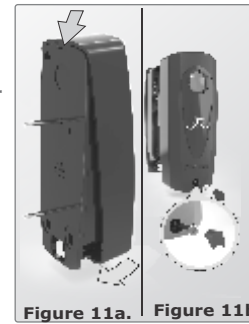

Figure 11a. Figure 11b.
The beam lenses MUST be fitted on the receiver during the alignment procedure as they serve to focus the infrared beam. Failure to do so may result in an inability to achieve alignment. Refer to figure 11a. **Do not screw closed until the beams have been aligned.**
18. Close the units by placing the front cover onto the base as shown in figure 11a. **Do not force the cover, rather place it over as illustrated.**